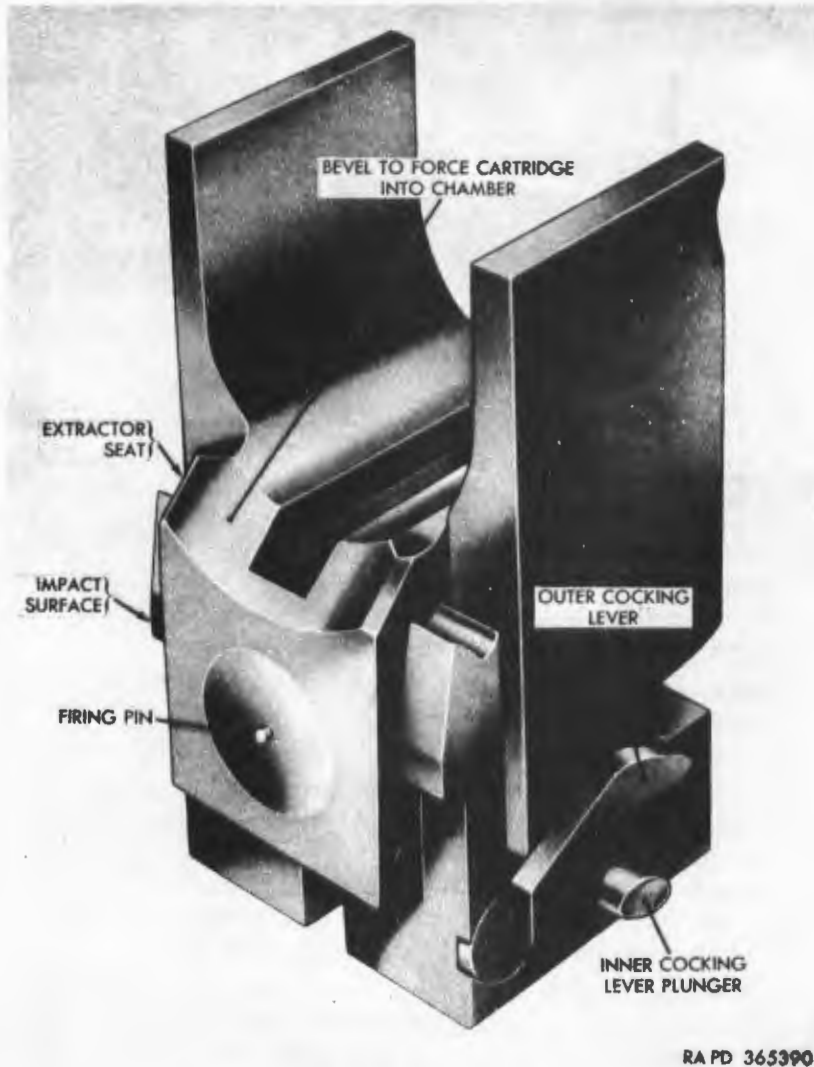
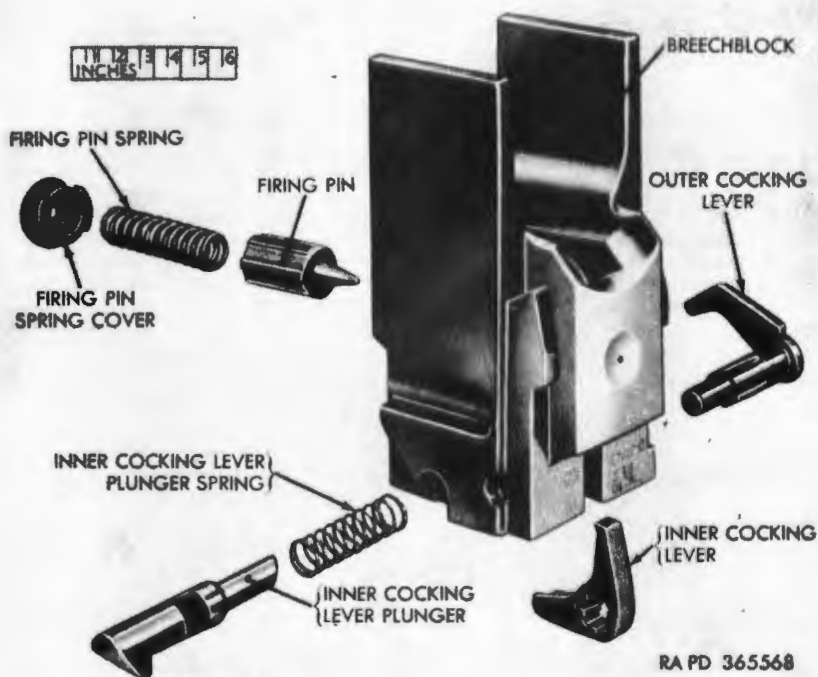
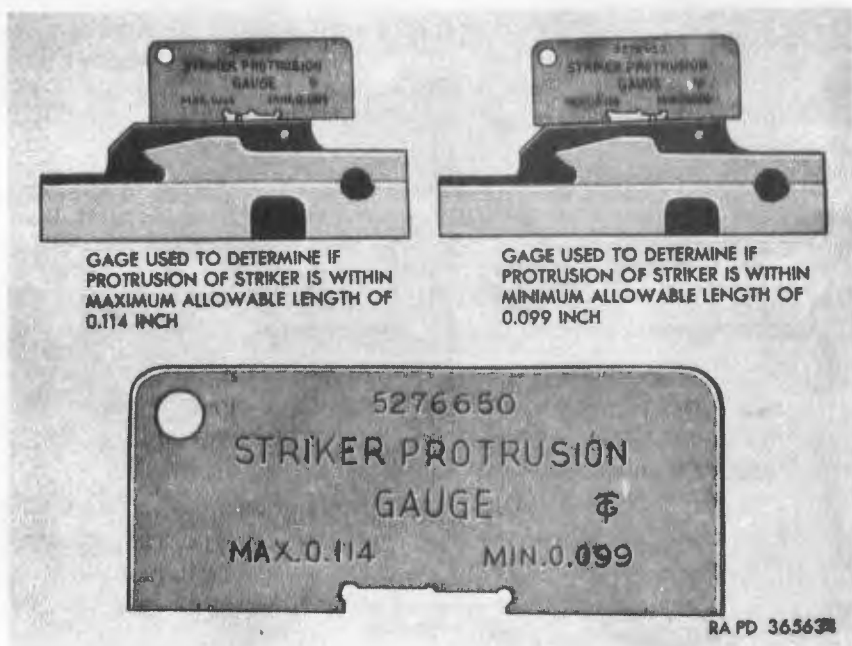

Figure 293. Breechblock assembly—front view.
Figure 308. Breechblock assembly—Exploded view.
Figure 309. Firing pin protrusion gage 5276650.
- (1) *Breechblock assembly.* The breechblock assembly is composed of a breechblock and percussion mechanism. The percussion mechanism is made up of the breechblock inner and outer cocking levers, inner cocking lever plunger and spring, and the firing pin, spring, and cover. Figures 293 and 294 illustrate a breechblock assembly
- (1) *Manual operation.* The breechblock may be opened manually by operation of the hand operating left lever (fig. 33). By pulling the lever upward and to the rear, a mechanical linkage rotates the breech ring outer crank (fig. 296) which lowers the breechblock. As the breechblock lowers, the breech closing spring (fig. 296) is placed under tension (torsion spring). As the breechblock descends, impact surfaces on front of breechblock (fig. 293) strike the toes of the extractors (fig. 278), rotating them to the rear. The extractors lock the breechblock in the lowered position as shown in figure 279. The breechblock may be raised (closed) manually by pressing the extractor releasing lever (fig. 52) forward.
(e) Withdraw inner cocking lever plunger and plunger spring (fig. 308).
- (1) The breechblock assembly, inner and outer cranks, and closing spring case assembly should be cleaned with rifle-bore cleaner. Lubricate as specified in lubrication order LO 9-7218 (par. 90).
- (2) If the breechblock assembly does not function smoothly, or if greater than normal effort is required when operated by the hand operating lever, the breechblock assembly should be disassembled (c(3) above) and the cause determined and corrected. Carefully examine all exterior surfaces of breechblock (fig. 308) for burrs, scores, or rough spots. Pay particular attention to impact surfaces (fig. 293) which cam the extractors. Also check for burrs on extractor seats. If necessary polish with crocus cloth.
- (3) Examine firing pin spring (fig. 308) and inner cocking lever plunger spring for cracks, breaks, or set condition. Replace spring if cracked, broken, or set.
- (4) Examine breech ring outer crank (fig. 303), and outer and inner cocking levers (fig. 308) for burrs, scores, damage to splines, and for fit in breechblock. If necessary, polish with crocus cloth. When polishing inner cocking
- (5) Examine breechblock inner cocking lever plunger (fig. 308) carefully for burrs and scores, particularly on cam surfaces. If necessary, polish with crocus cloth but do not remove more metal than is absolutely necessary. Replace plunger if cam surfaces are worn, or if part is cracked, broken, or deformed.
- (6) Examine firing pin (fig. 308) for pitting, deformation, broken point, or cracks; if any of these conditions exist replace pin. Measure protrusion of firing pin with firing pin protrusion gage 5276650 (fig. 309). If protrusion is less than the minimum allowable (0.099 inch) or more than the maximum allowable (0.114 inch), replace firing pin.
- (7) Check rotation of firing pin spring cover (fig. 308) in breechblock. If binding is noted, remove any burrs or scores from locking lugs with crocus cloth. Replace spring cover if lugs are damaged or worn.
- (a) Insert inner cocking lever plunger spring (fig. 308) and plunger into bore in breechblock.
- (b) While holding inner cocking lever plunger in, insert inner cocking lever (fig. 308) by fitting slotted end of lever into slot in plunger.
- (c) Press lever plunger in and insert outer cocking lever (fig. 308) by fitting splined section of outer cocking lever shaft into the splines in hub of inner cocking lever.
- (d) Place firing pin spring (fig. 308) in cupped end of firing pin and insert firing pin in bore in breechblock.
- (e) Press firing pin spring cover (fig. 308) into bore of